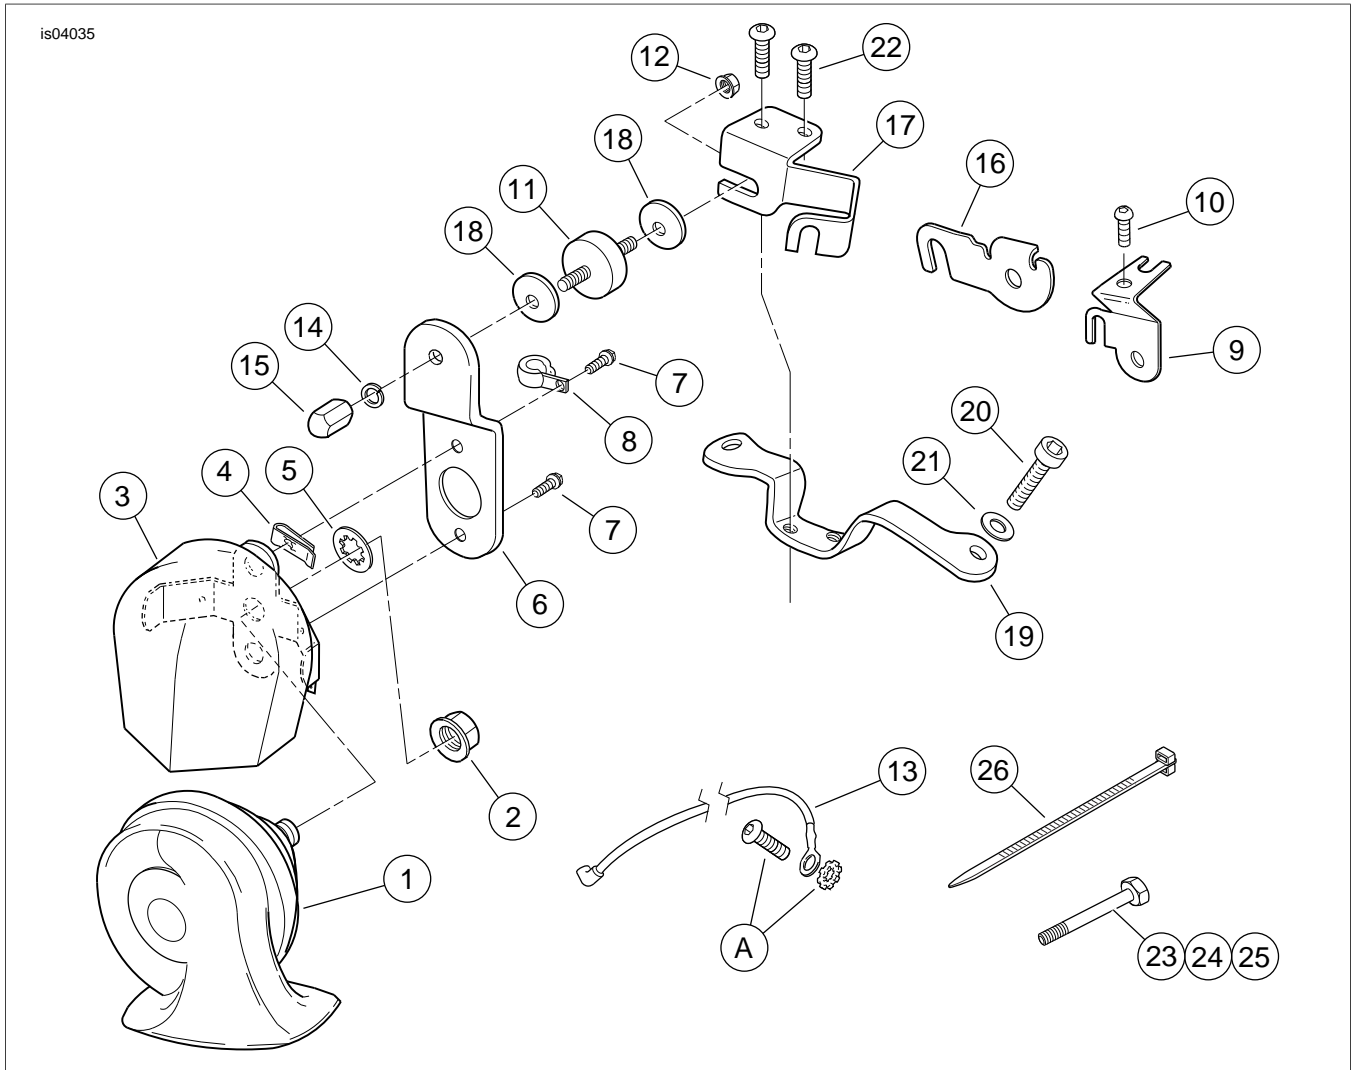

Figure 10. Service Parts, Chrome Horn Kit
1. Cut the cable strap securing the horn wire lead(s) to the frame. Remove the horn wire(s) from the wire bundle. Secure the remaining wires to the frame with a new cable strap (26) from the kit.
4. Obtain the 5/16-18 x 4-1/4 in. hex head cap screw (25) from the kit. Install the fuel tank to the vehicle, using the **new** screw and the remaining hardware removed earlier. Refer to FUEL TANK, INSTALLATION in the Service Manual. Tighten the fuel tank front mounting screw to 96-192 **in-lbs** (10.8-21.6 Nm)
5. See Figure 10 and Table 1. Obtain the following items from the kit: